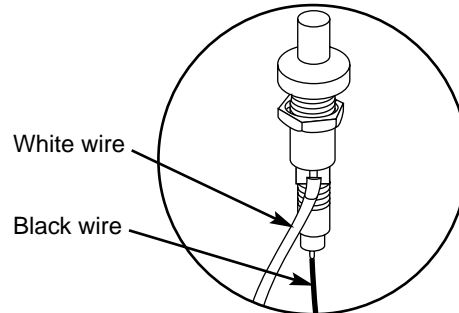

Figure 17
- Check that both the white and black ignition wires are attached properly. Figure 17.